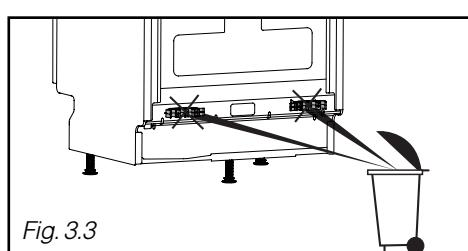

Fig. 3.3
- Retirez les supports tuyaux (Fig. 3.3)*